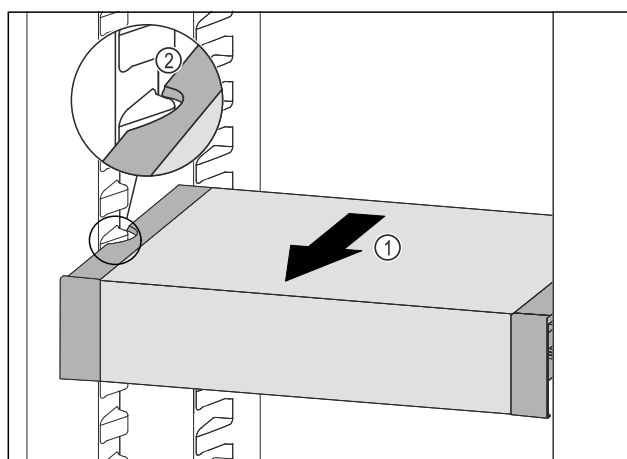

Fig. 136
- Pull VarioSafe forwards *Fig. 136 (1)* until the recesses in the side of the VarioSafe are at the level of the support rib in the fridge section. *Fig. 136 (2)*